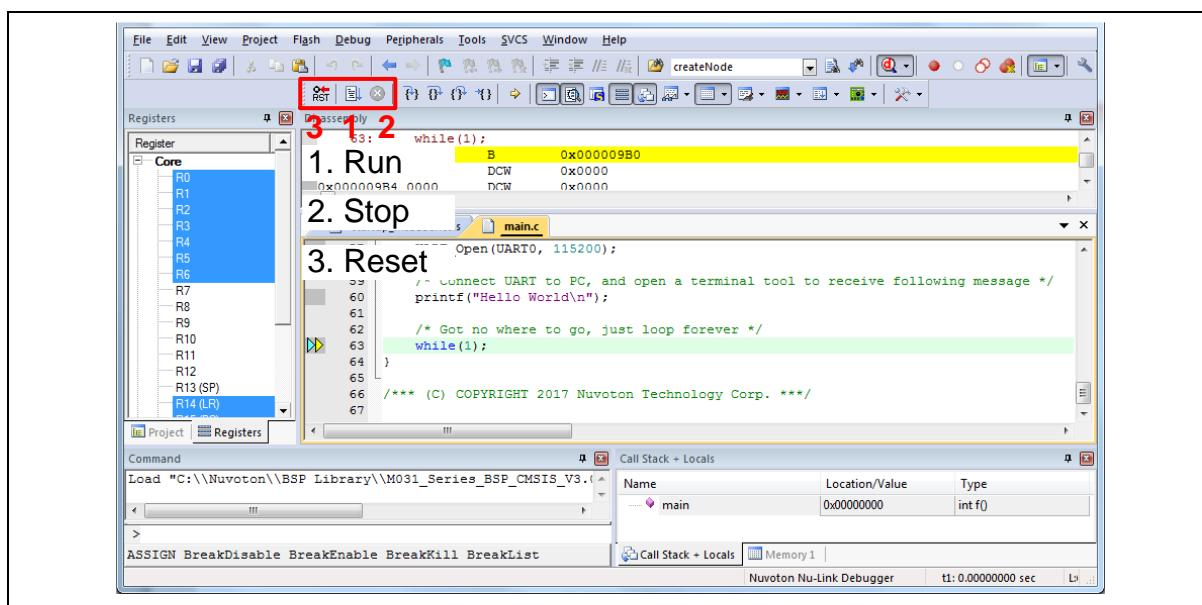
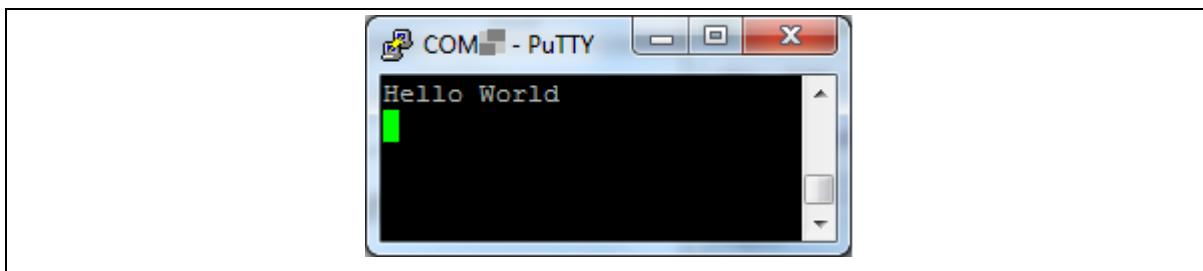

Figure 5.2-18 Keil MDK Debug Mode
Figure 5.2-19 Debug Message on Serial Port Terminal Windows
- (8) Figure 5.2-18 shows the debug mode under Keil MDK. Click “Run” and the debug message will be printed out as shown in Figure 5.2-19. User can debug the project under debug mode by checking source code, assembly language, peripherals' registers, and setting breakpoint, step run, value monitor, etc.